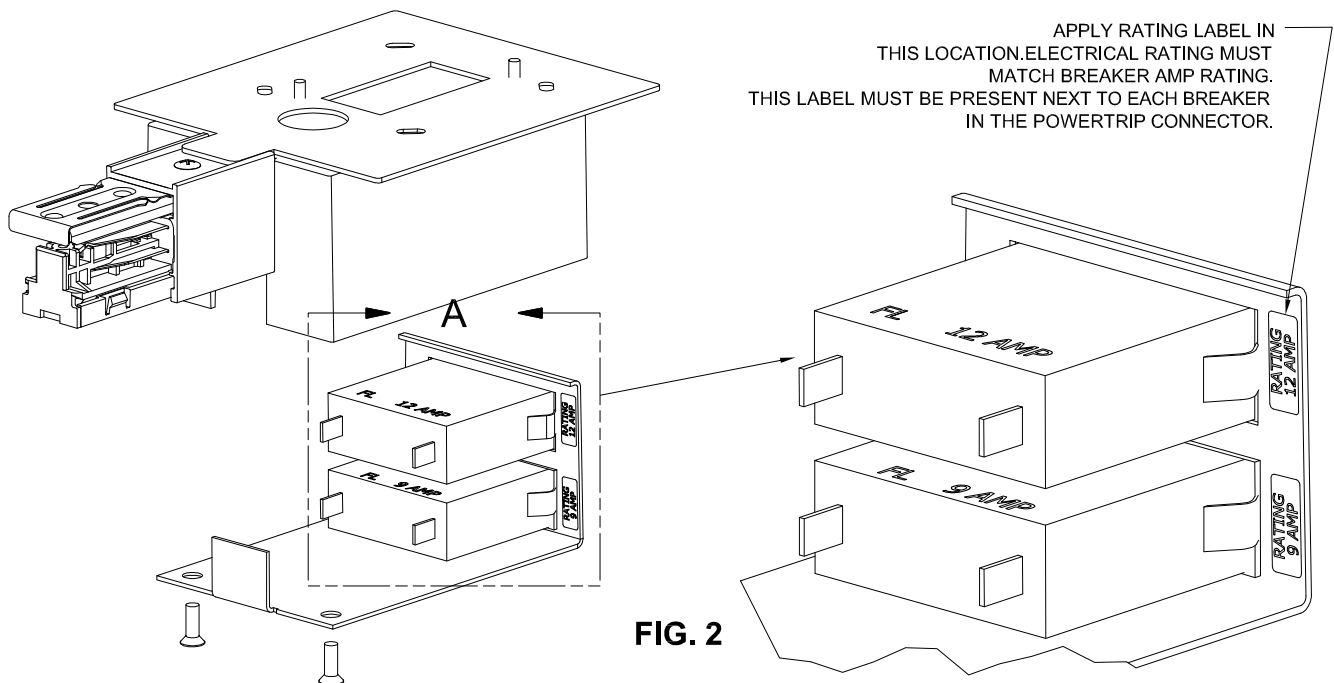

FIG. 2
3. Apply RATINGS LABEL to powertrip connector in location shown in FIG. 2. ELECTRICAL RATING LABEL MUST MATCH BREAKER AMP RATING. FAILURE TO APPLY THIS LABEL WILL VOID CODE COMPLIANCE.